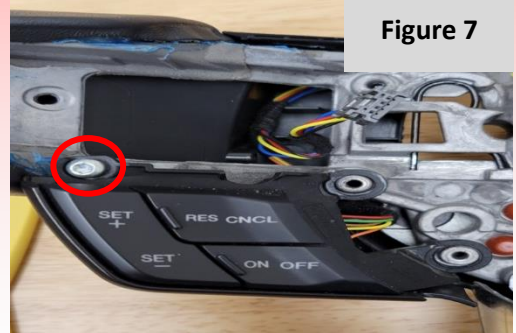
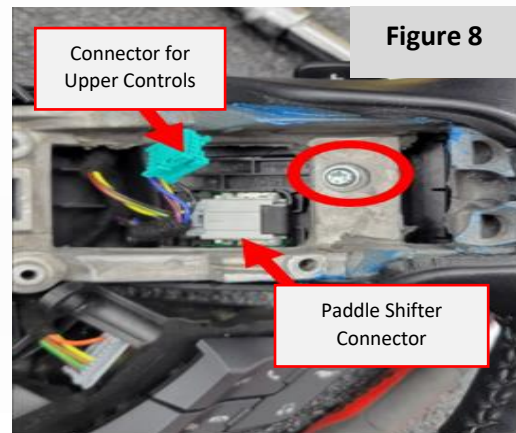

Figure 7
Figure 8
7. Next, remove the green electrical connector on the back of the bezel (**Figure 8**) by pushing down on the center tab to disconnect the connection. Then, remove the (x1) T20 Torx bit screw to release the lower section on controls on the right-hand side (**Figure 7**). Note that the lower controls are not removed from the harness.
9. *For steering wheels with paddle shifters:* After removing the upper front controls (*Step 6/7*), you will need to remove (x1) T20 Torx bit screw on each wing of the steering wheel core to release the paddles (**Figure 8**). You will also need to unclip a connector in the window of each wing of the core.
18. For Wheels with Paddle Shifters: Place the left and right-hand paddles in their respective places on the back of the wheel (Step 10), and line up the holes and reinstall the (x1) T20 Torx bit screw (**Figure 8**). Torque to 44lb-in (5 Nm). Clip in the color-coded connectors and test the paddles to confirm they move as intended. If they appear bound up or sticky, the rear shell may not be secured properly, or the wiring harness may be impeding the placement of the paddles.
19. Reinstall the right and left-hand lower controls (**Figure 7**) to the aftermarket steering wheel core. First, by reconnecting the upper switch bank connectors removed in Step 8/9, and then securing the lower (x1 per side) T20 Torx bit screws. Torque to 44lb-in (5 Nm).